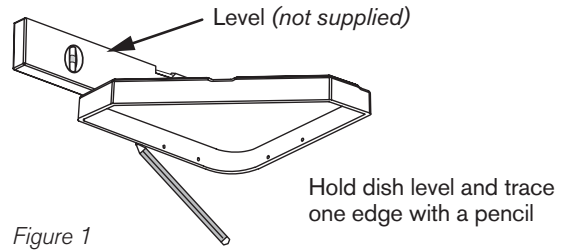

Figure 1
1. Hold the soap dish level (or slightly tipped forward) at the desired location on the tub/shower wall. Using a pencil, trace the edge on one side of the dish (*Figure 1*).